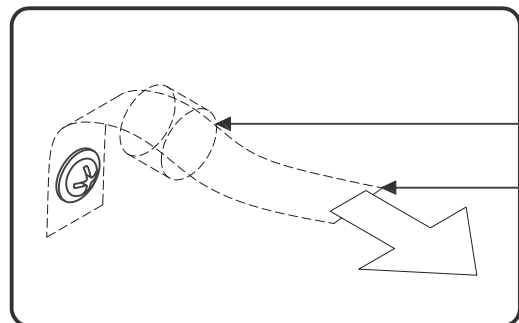

Figure 6
Move unit back into place and insert Tip-over Restraint into unit through hole in Back Panel (K). (See Figure 6)